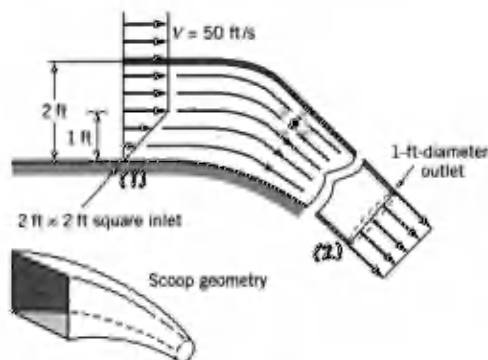

FIGURE P5.2R
5.2R (Continuity equation) Air (assumed incompressible) flows steadily into the square inlet of an air scoop with the nonuniform velocity profile indicated in Fig. P5.2R. The air exits as a uniform flow through a round pipe 1 ft in diameter. (a) Determine the average velocity at the exit plane. (b) In one minute, how many pounds of air pass through the scoop?